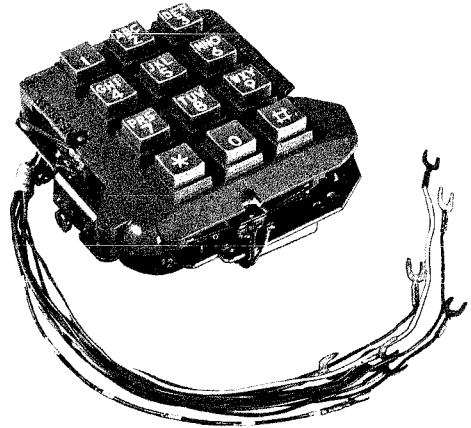

Fig. 1 — 35-Type Dial — Front View
- 1.03 The 35-type dials (Fig. 1 and 2) are TOUCH-TONE® dials having twelve push-buttons. Ten are used in "number-letter" calling and two are used to give special service connections.